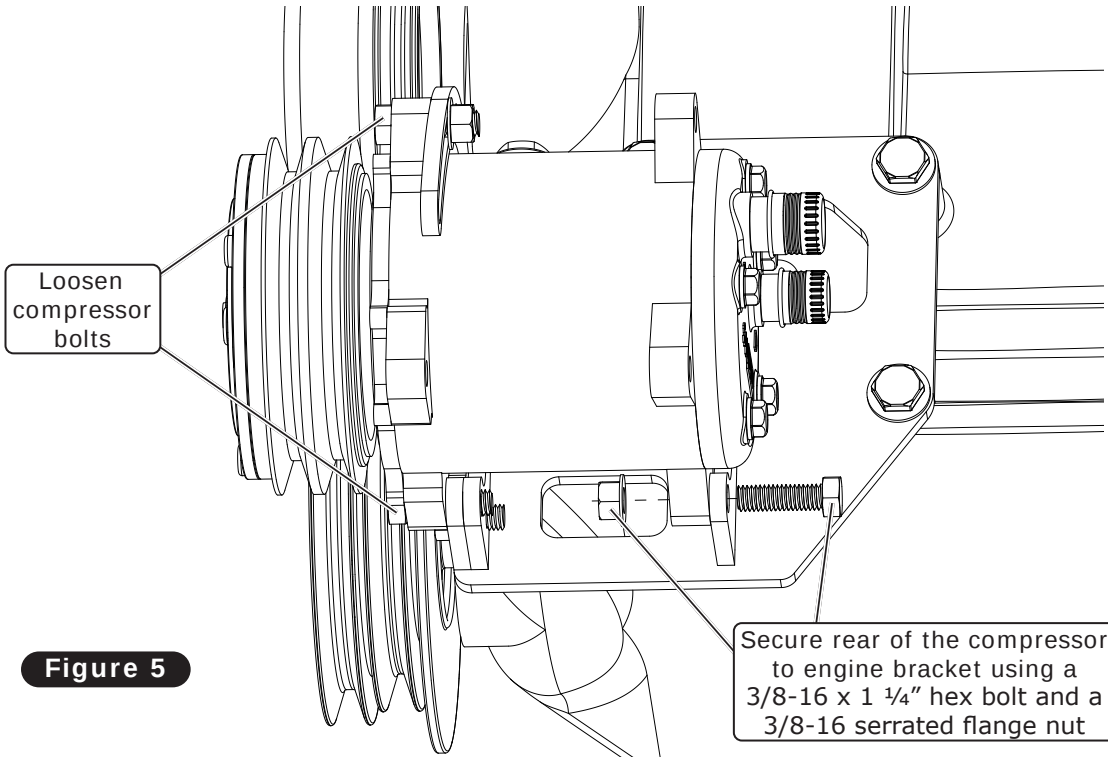

Figure 5
6. Secure the rear of the compressor to the engine bracket using a 3/8-16 x 1 1/4" hex bolt and a 3/8-16 serrated flange nut as shown in Figure 5, below. Leave loose.
7. Loosen the compressor bolts and install the belt (See Figure 5, below).